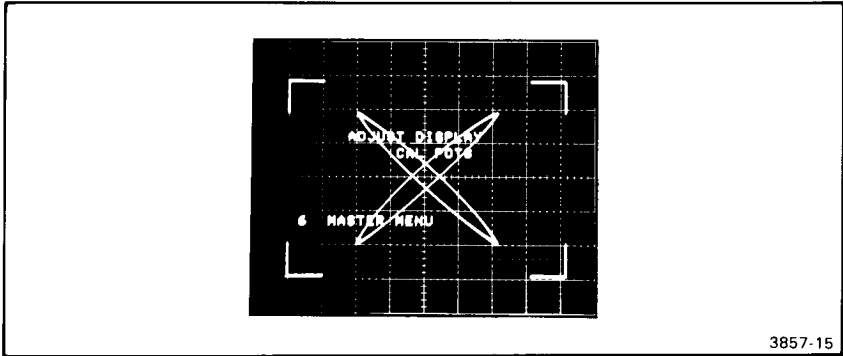

Figure 2-7. Adjust HORIZ CTR.
Step 2 Adjust the HORIZ CTR (horizontal center) control to bring the left edge of the DISPLAY CAL PATTERN in alignment with graticule line 1 of the display as shown in Figure 2-7 (left-most graticule line is 0).